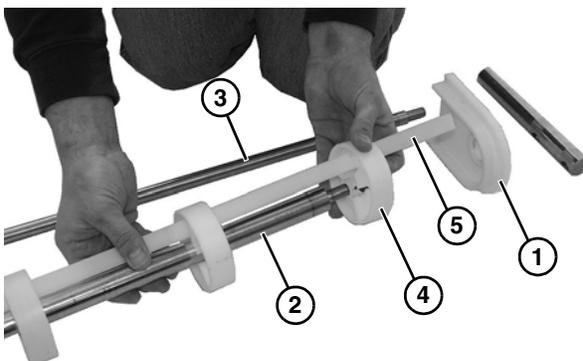

Figure 58
3. Remove pinch guard (**Figure 58, item 1**) from idler shaft (**Figure 58, item 2**) and pinch guard shaft (**Figure 58, item 3**).
4. Slide the pucks (**Figure 58, item 4**) and alignment bar (**Figure 58, item 5**) off the idler shaft (**Figure 58, item 2**).